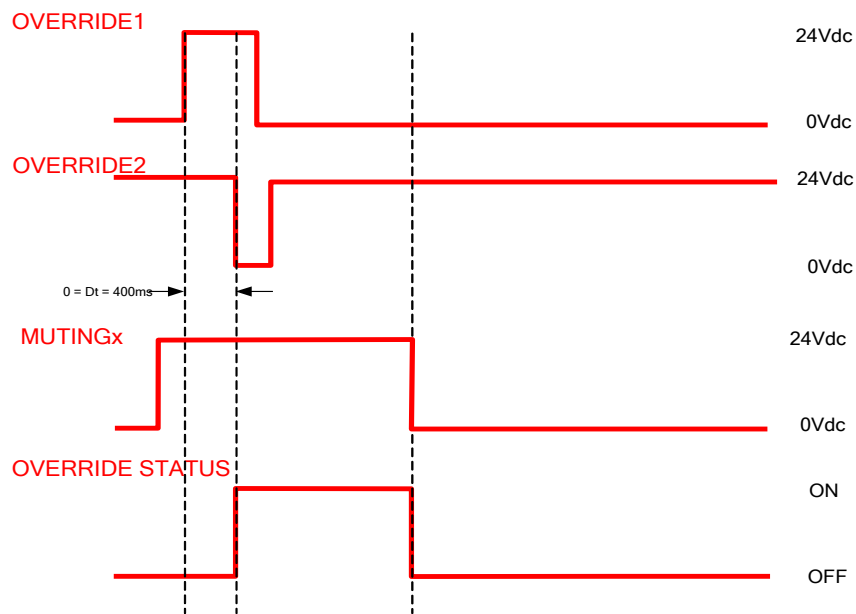
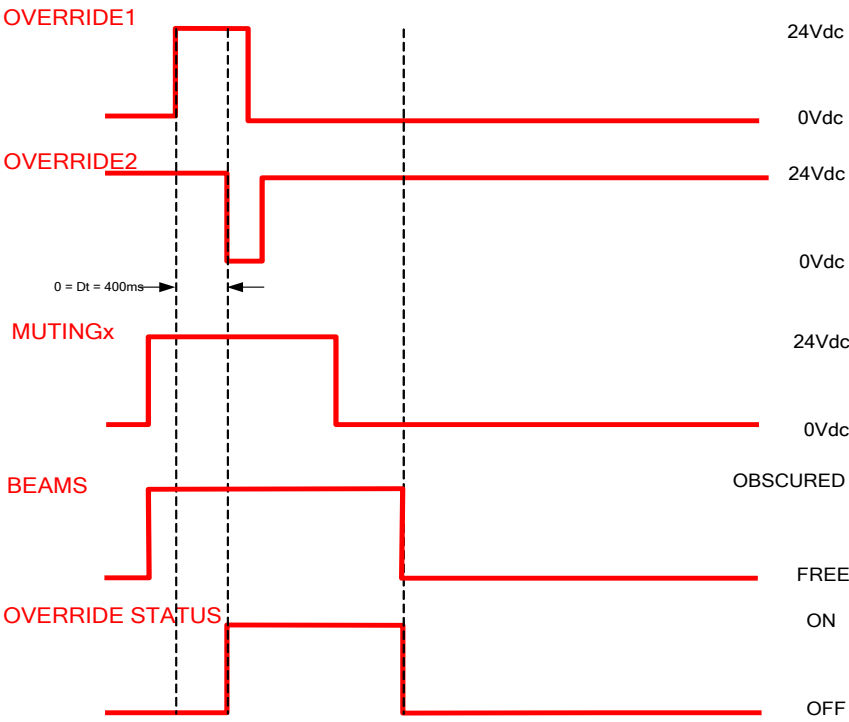

Figure 43
Figure 44
- the muting sensors are free (T-Muting, Figure 43), or the muting sensor are deactivated and the beams of the light curtain are free (L-Muting, Figure 44).